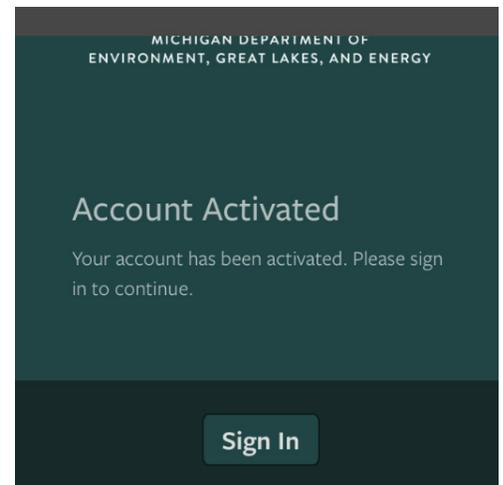

Figure 5-2 – Account Activated
- b. **Click the link to activate your account.** You will see a pop-up window that states "Account Activated." (Figure 5-2.)